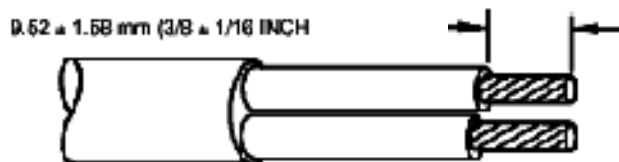

Figure 6. Completed Strip
11. **CABLE STRIPPING.** Cut all cables to proper length as directed by the applicable drawings or wiring diagrams. Exercise care and cut wire so that cut is clean, square, and not deformed, see Figure 6.